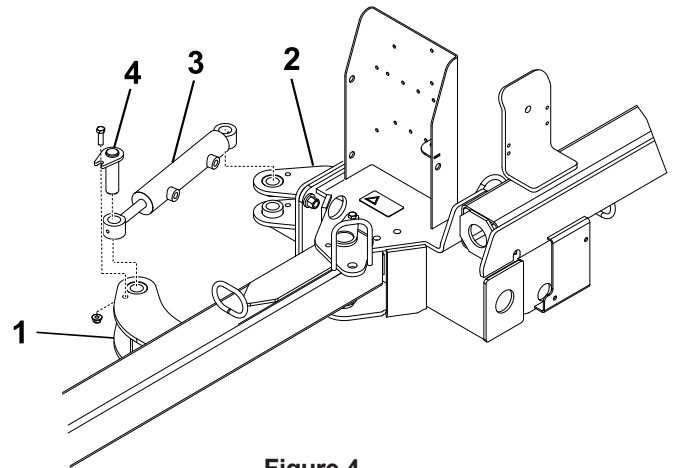

Figure 4
2. Secure each end of the hydraulic cylinder to an actuator tab with a pin assembly, a bolt (3/8 x 1-1/4 inch), and a flange nut (3/8 inch) Figure 4.